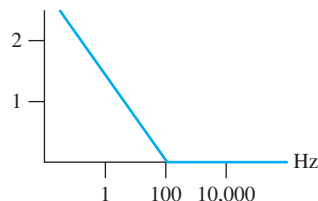

FIGURE P7.15 Magnitude plot for Problem 7.15.
7.15 (B) What is the transfer function of the plot in Figure P7.15?